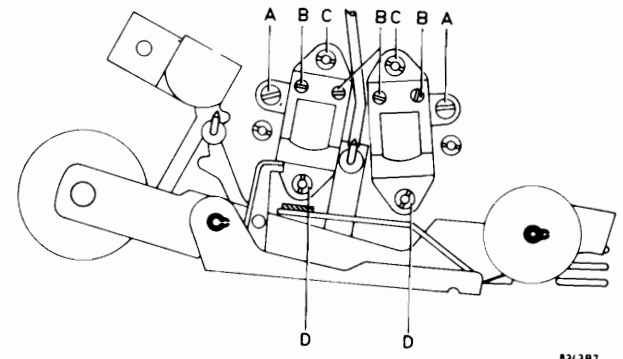

Fig. 11
**Instellen weergeefkop K1/K101 (Fig. 11)**